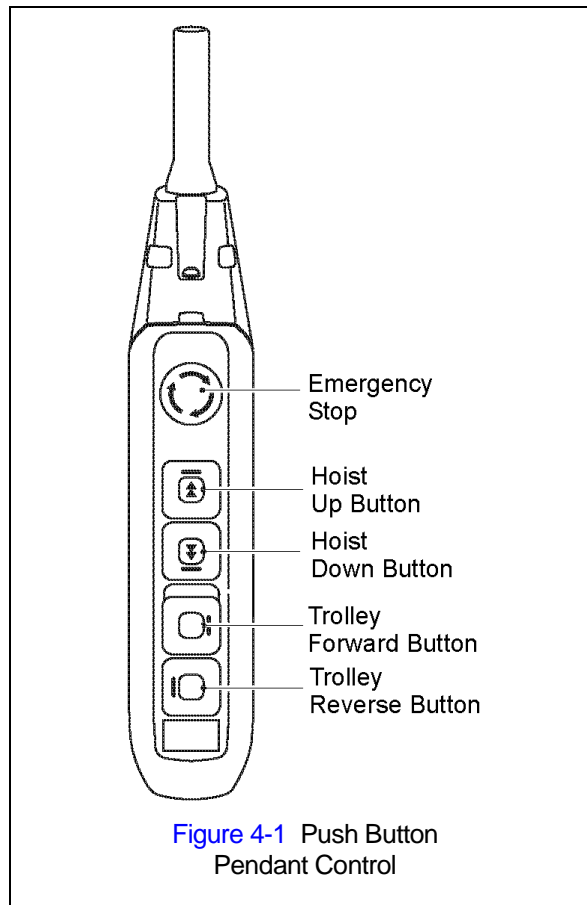

Figure 4-1 Push Button Pendant Control
- 4.3.1 Emergency Stop Button – Press the Emergency Stop Button to perform an emergency stop and lock-out of hoist motion controls or to reset the VFD as shown in Figure 4-1. Turn the Emergency Stop Button clockwise to unlock the controls and allow hoist operation. “Hbb” will appear on the dual speed unit’s VFD display when the Emergency Stop Button is depressed.
- 4.3.2 Single Speed Pendant Control - When using the pendant control depress the Up button to raise the hoist’s hook or the Down button to lower the hoist’s hook as shown in Figure 4-1. Depress the Forward and Reverse buttons to move the trolley horizontally. To stop motion release the buttons.
- 4.3.3 Dual Speed Pendant Control – Pendant controls supplied with dual speed hoists or trolleys have two step control buttons. For low speed depress the button to the first step and for high speed depress the button fully to the second step. Use the Up button to raise the hoist’s hook or the Down button to lower the hoist’s hook as shown in Figure 4-1. Depress the Forward and Reverse buttons to move the trolley horizontally. To stop motion release the buttons.